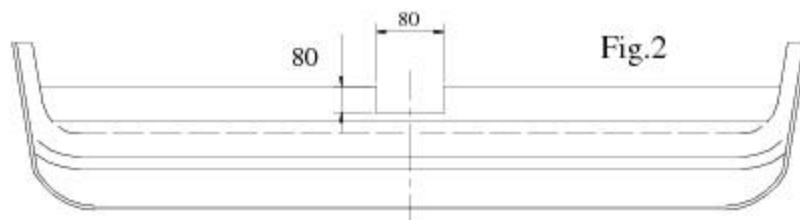

Fig.2
3. Position the towbar to the chassis members (do it in such a way that towbar's holes cover chassis member's holes) then slide special nuts (pos. 4) through the rectangle holes of the chassis members and fix the towbar using screws M10x35mm (pos. 6).
4. Cut the bumper according to the fig. 2.